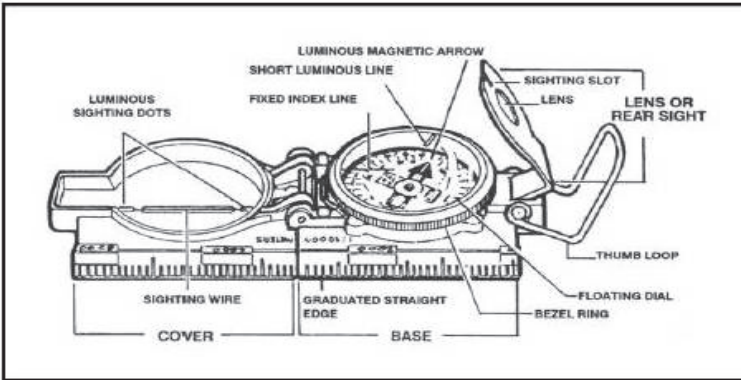

Figure 071-COM-1003-1. Lensatic compass.
1. Inspect the compass (Figure 071-COM-1003-1).